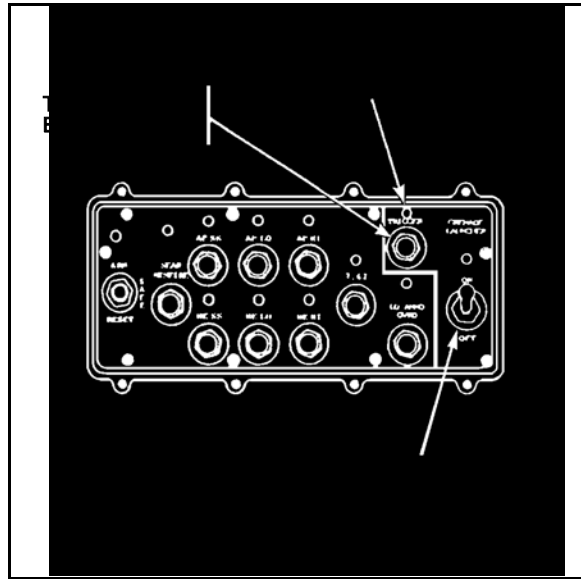

Figure 1. Weapon control box.
2. The gunner moves the grenade launcher switch to ON (Figure 1).